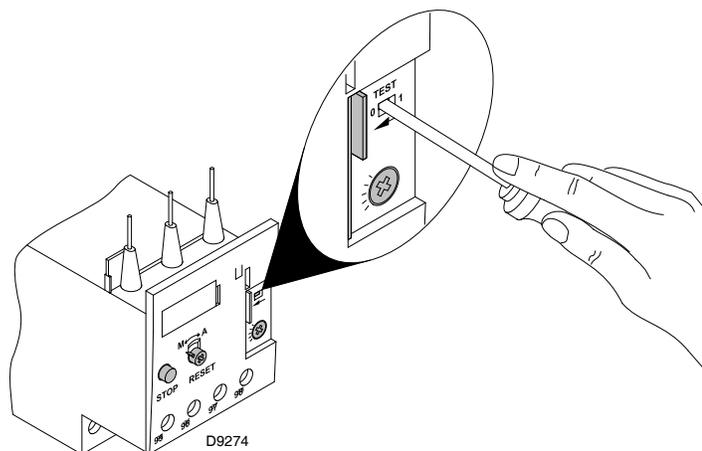

Fig. 24
- To test the thermal relay, insert a screwdriver in the window "TEST" (Fig. 24) and move it in the sense of the arrow (towards right).